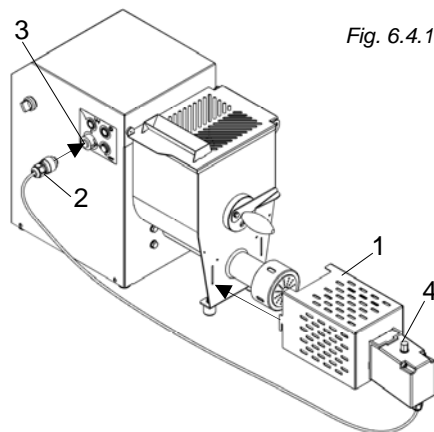

Fig. 6.4.1
- Fit the dough cutter "1" (fig 6.4.1) to the machine by inserting it in the slits at the sides of the product outlet.
- Plug the connector "2" (fig. 6.4.1) into the connector "3" (fig 6.4.1)
- Use the potentiometer "4" (fig 6.4.1) to vary the rotation speed of the cutter so as to cut the dough to the desired length